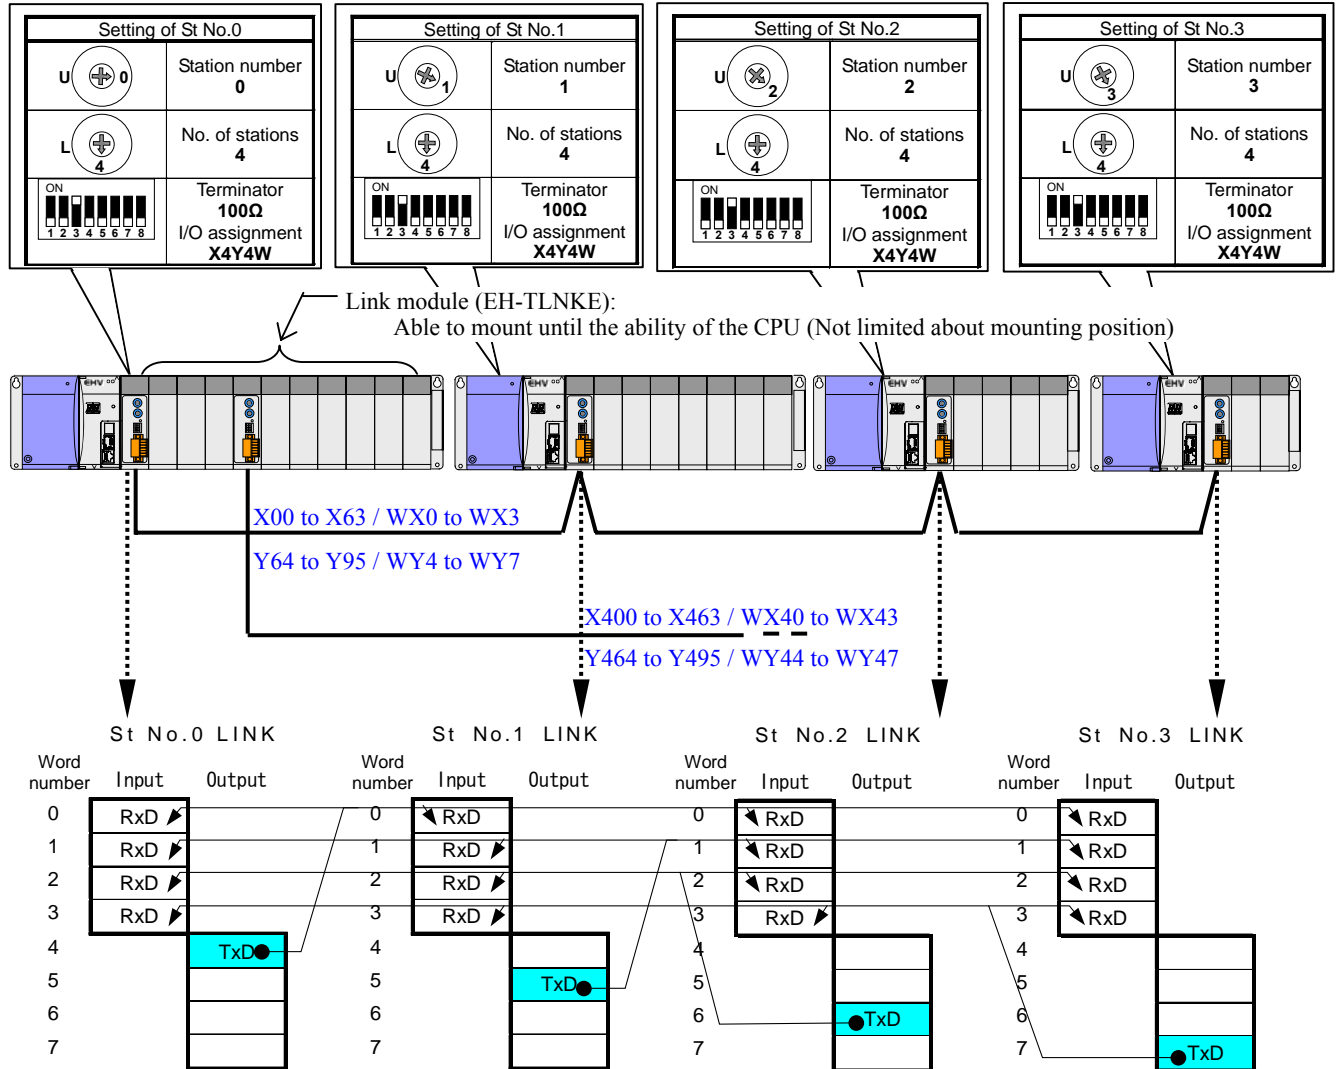
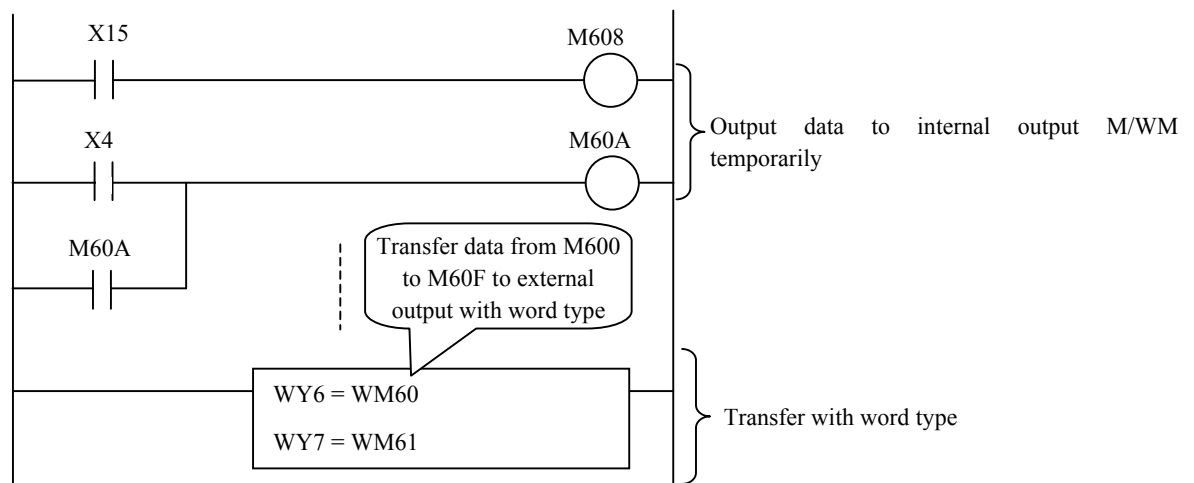

Figure 4.3.3 System configuration example-4 (I/O assignment of "X4Y4W")
Figure 4.3.5 Sample program with bit I/O numbers that exceed 95
Figure 4.3.3 is the system configuration example that compact link modules were set to compatible mode and I/O assignment "X4Y4W".
- 1) When compact link modules are set to I/O assignment "X4Y4W" like Figure 4.3.3, they are assigned I/O numbers according to the slot position. In this case compact link modules can use maximum 4 words per system in link area. And the send area uses the external output area (Words number 4 to 7), and received area uses external input area (Words number 0 to 3).
- 7) Bit number in module is from 0 to 95. Therefore, use the word number as WY6 and WY7 in Figure 4.3.3 for the number that exceeds 95. In the case of using these numbers as coil or contact in ladder program, use internal output like as M/WM temporarily and transfer these data to external output later as shown in Figure 4.3.5.